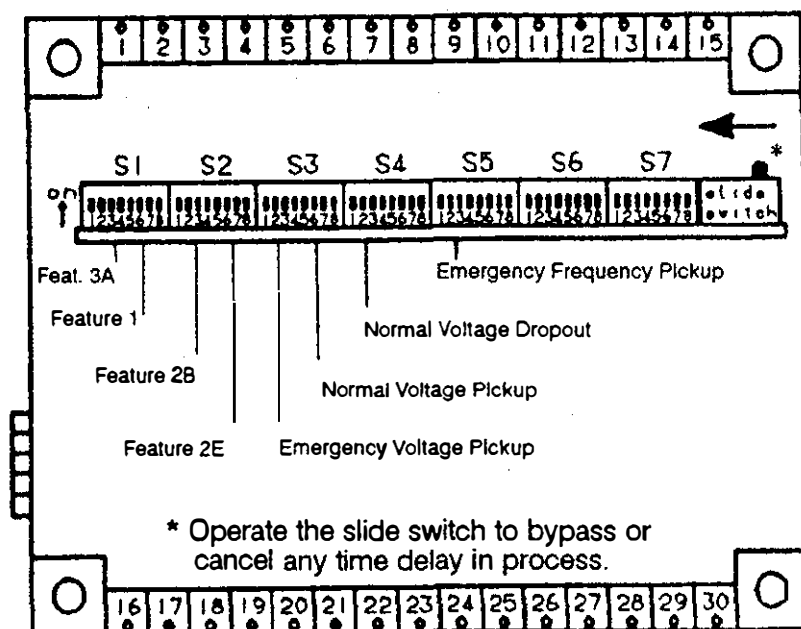

Figure 4-4. Location of DIP switches.
NOTE: While any one of the time delays is timing out, it can be bypassed or canceled by operating the slide switch located on the right end of the DIP switch circuit board. See Figure 4-4 on page 4-2.
4. Locate the appropriate DIP switch for the setting you want to change (refer to Tables 4-1 and 4-2 on the previous page and refer to Figure 4-4).